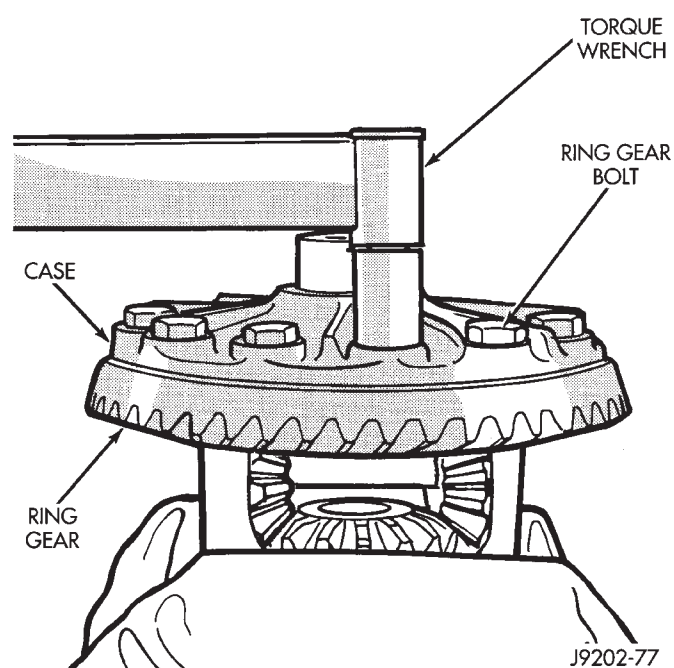

Fig. 35 Ring Gear Bolt Installation
(1) Invert the differential case and start two ring gear bolts. This will provide case-to-ring gear bolt hole alignment.
(2) Invert the differential case in the vise.
(3) Install new ring gear bolts and alternately tighten to 95–122 N·m (70–90 ft. lbs.) torque (Fig. 35).
(4) Install differential in axle housing and verify gear mesh and contact pattern.